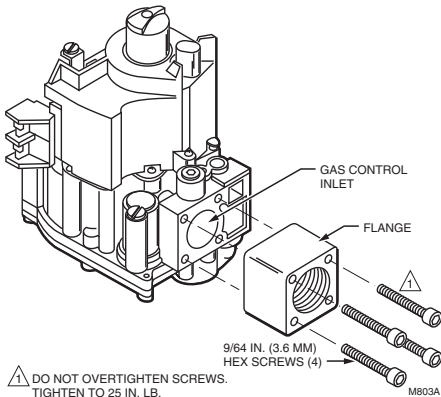

Fig. 3. Install flange to gas control.
4. With the O-ring facing the gas control, align the screw holes on the gas control with the holes in the flange. Insert and tighten the screws provided with the flange. See Fig. 3. Tighten the screws to 25 in. lb of torque to provide a gas-tight seal.